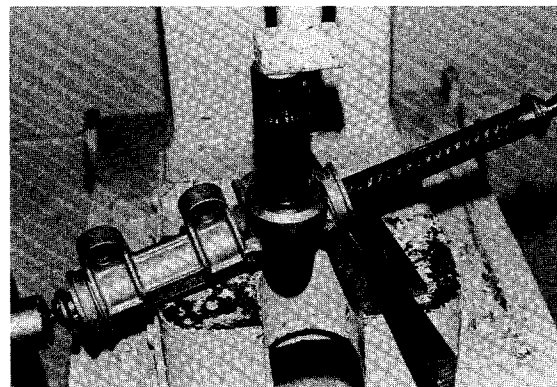

Figure 12-15
9. Reinstall the internal snap ring (29).
10. Press in a new dust seal (30) using a socket to apply pressure evenly (Figure 12-15).
11. Apply a small amount of grease to the rack guide where it comes in contact with the rack (9).
12. Install a few drops of Loctite® 222 to threads of screw (21).
13. Reinstall rack guide (24), pressure spring (23) and screw (21). The screw (21) should be installed until tight then back off 1/8 of a turn. Install the locknut (22) to the screw (21) and torque to 40 ft.-lbs.
14. Reinstall the dust seal bellows (5) and hex nut (31) and washer (32). Torque hex nut (31) to 50-55 ft.-lbs.